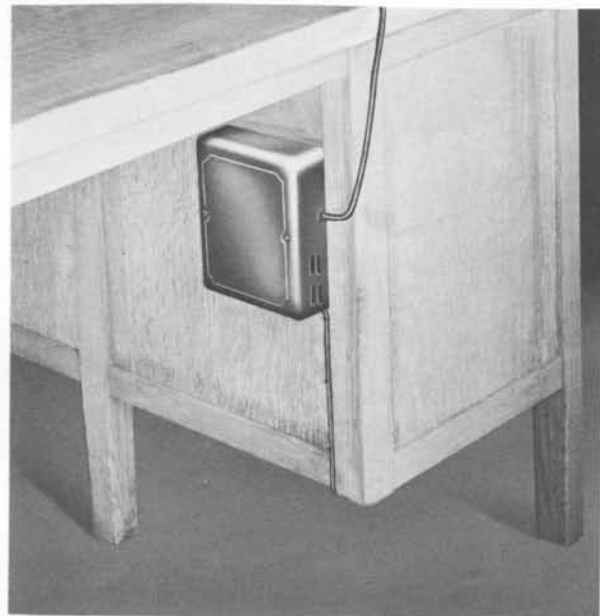

Fig. 3—684-type Subset Mounted on Desk
- 2.06 Subsets may be installed on the left, right, or under side of tables or desks. Subsets also may be installed in the knee well of the desk, provided that they are not located where they will inconvenience the person sitting at the desk. (See Fig. 3.)